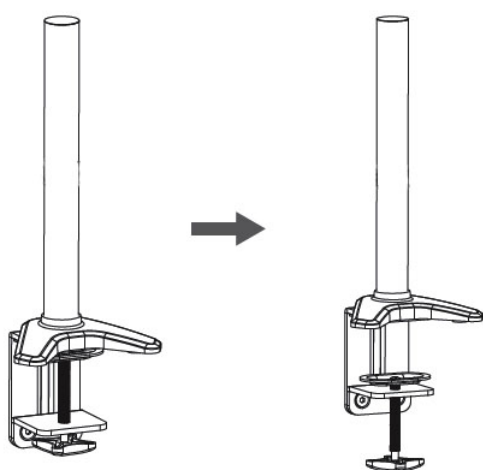

Figure 1
1. Position the Tube Support to the desktop. Loosen the clamp screw according to the thickness of the desktop, see Figure 1.